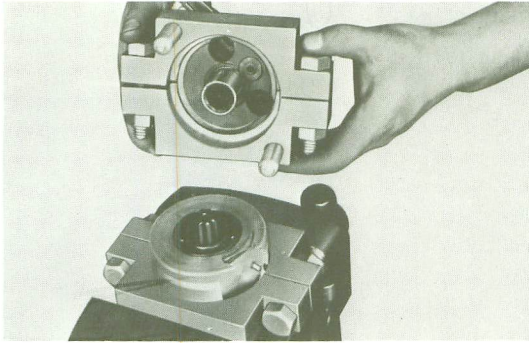

Fig. 4-17-9
- (5) Fig. 4-17-9 shows the disassembled crankshaft ass'y. To remove the crank cover and bearing, use a press. Note that the ignition side was removed. This allows free made center spline to protrude and provide an easier working surface for the press.